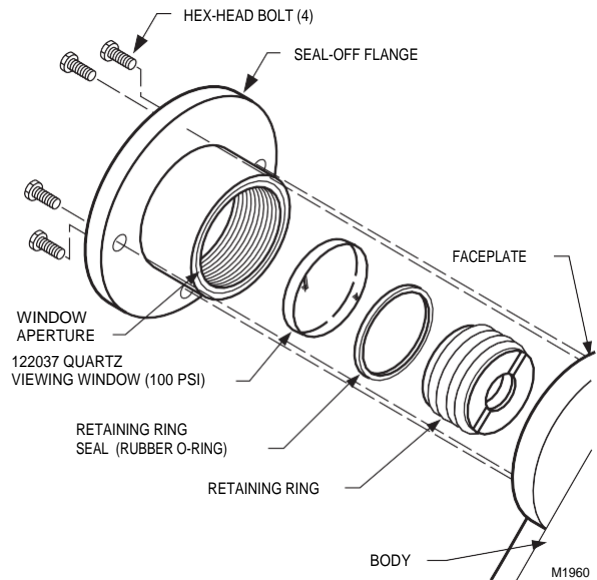

Fig. 24. Replacing quartz viewing window on C7012C,F
1. Clean the viewing window (or focusing lens) when necessary. Remove the detector (see Troubleshooting section) and use a clean cloth over the eraser end of a pencil. Do not remove the window (or lens) to clean it. If it is broken or damaged or is coated with a substance that cannot be removed, replace it (see Fig. 24).